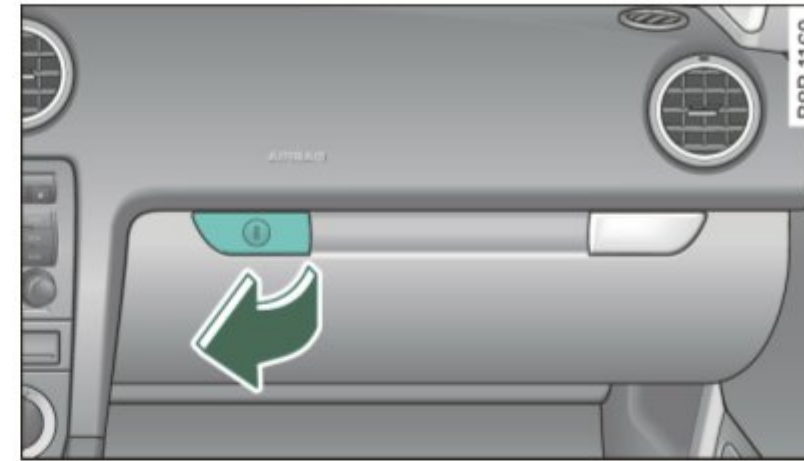

Fig. 121 Glove compartment
- Pull the handle ⇒ fig. 121 in the direction of the arrow push down lid to the fully open position.